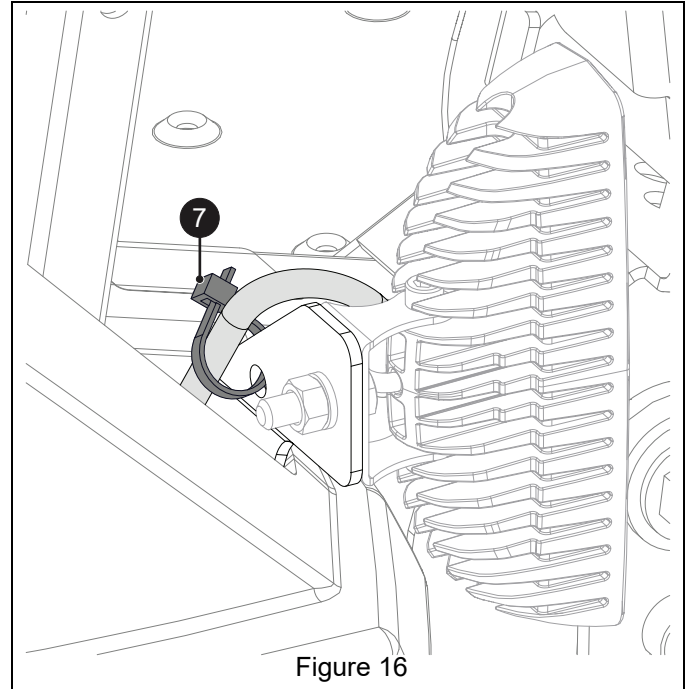

Figure 16
25. Securely attach harness to headlight brackets and right seat bracket with cable ties (item 7). Ensure harness and ties are secured away from hot or moving parts. See Figure 16.